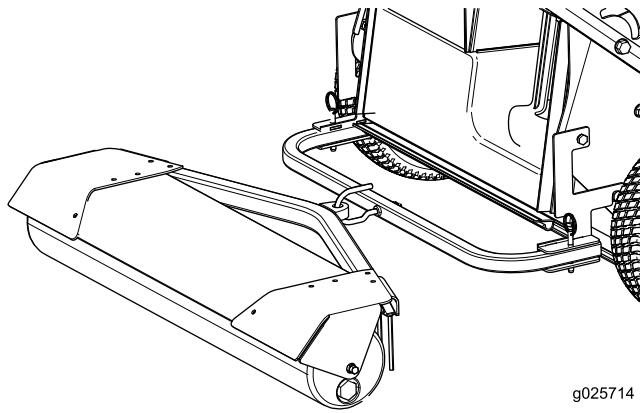

Figure 4
1. Plug	7. Attach the lawn striper trailer to the hook (Figure 4).
7. Attach the lawn striper trailer to the hook (Figure 4).